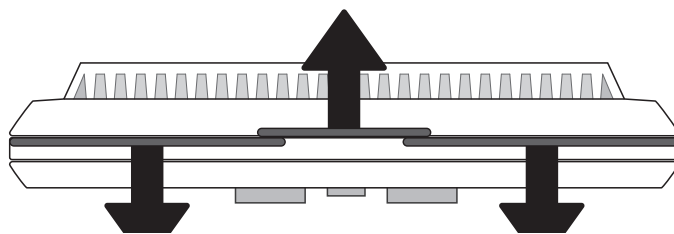

Figure 3.5
1. Separate the body of the thermostat from the mounting plate by gently pulling the two pieces apart. See **Figure 3.5**.